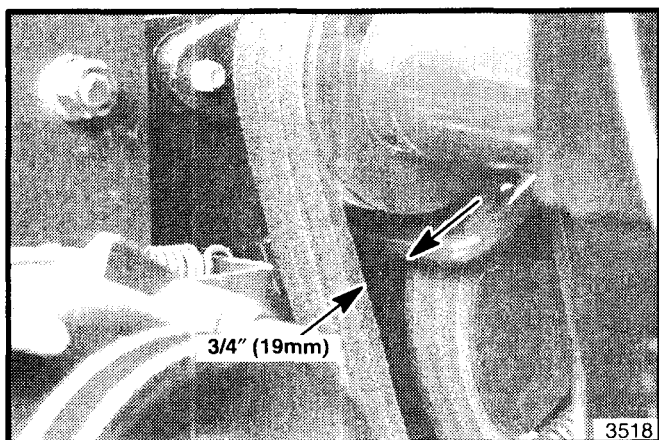

Figure 20. Reel Belt Clearance
8. Engage the reel drive clutch. Measure the distance between the reel drive belts and the forward edge of the idler assembly belt stop (see figure 20). Measurement should be 3/4" (19 mm). If necessary, reposition engine to obtain proper dimension.